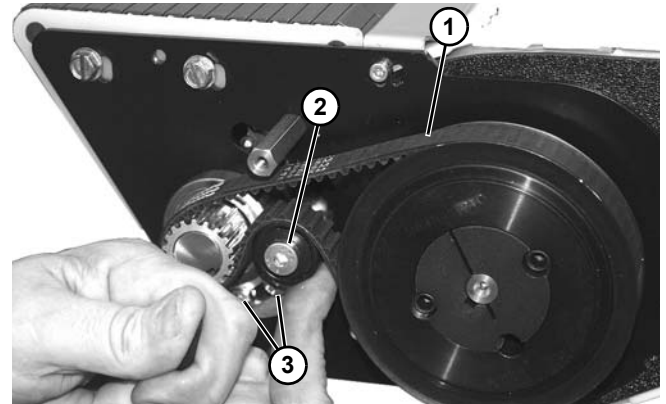

Figure 178
- On idler end, route and install belt (**Figure 178, item 1**) as shown. Press up on tensioner (**Figure 178, item 2**) and tighten two socket head screws (**Figure 178, item 3**).